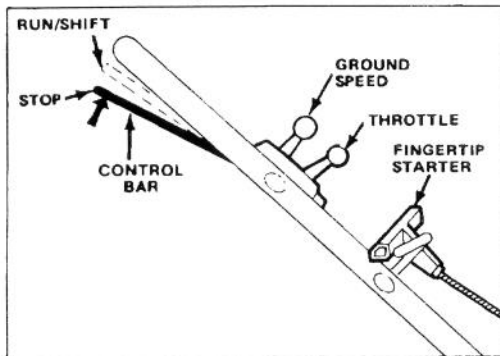

Figure 10
1. **CONTROLS**—Ground speed control, throttle, control bar and fingertip starter are on upper handle (Fig. 10).
3. **STARTING**—Move ground speed control to "N" and throttle to FAST. Lift control bar to RUN/DRIVE position and hold. Pull fingertip starter out until positive engagement results (Fig. 10); then pull vigorously to start the engine. Regulate throttle as desired when engine starts (Fig. 10). If engine does not start after 2 or 3 pulls, wait 10 seconds for carburetor prime well to refill with gasoline.
4. **TRACTION OPERATION**—Allow control bar to move into the RUN/SHIFT position. Move ground speed control to desired setting and squeeze control bar against handle to drive. Ground speed varies, depending on space between control bar and handle. (Fig. 10).